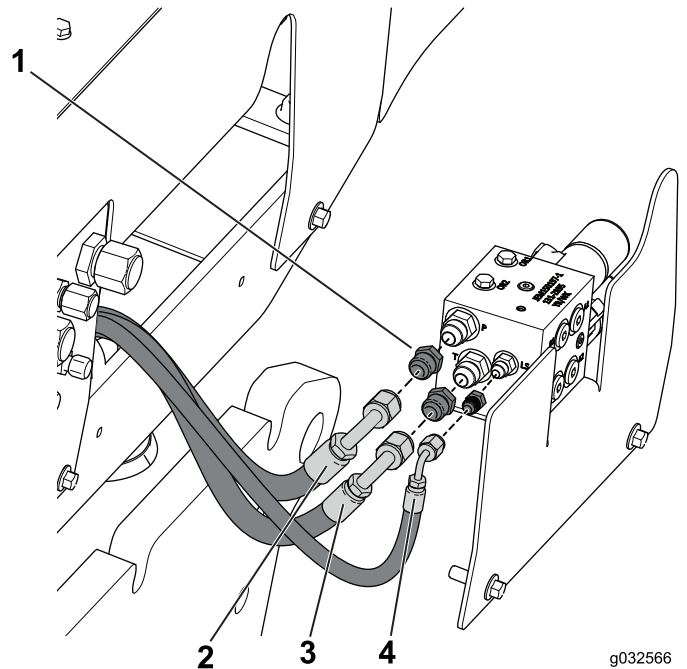

Figure 4
9. Attach the hydraulic hoses to the fittings on the solenoid valve as shown in Figure 4.